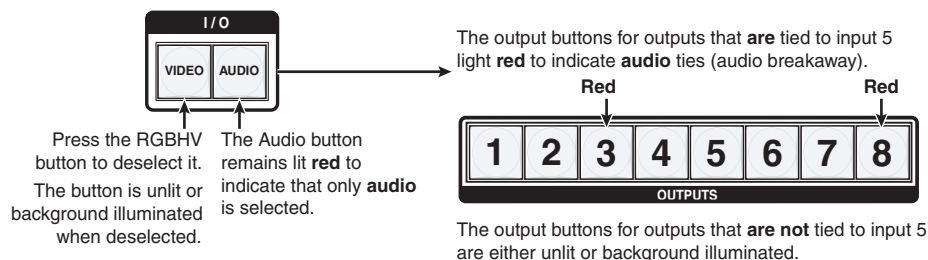

Figure 3-24 — Deselect RGBHV to view audio ties only
5. Press and release the RGBHV button to deselect RGBHV (figure 3-24).